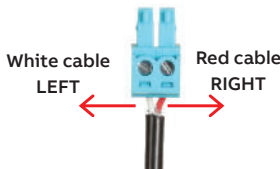

Figure 3
- Trim excess wire length as necessary while maintaining correct polarity in the connectors. **Note:** The white cable must be inserted to the left side and the red cable to the right side of the connector as shown in Figure 3.